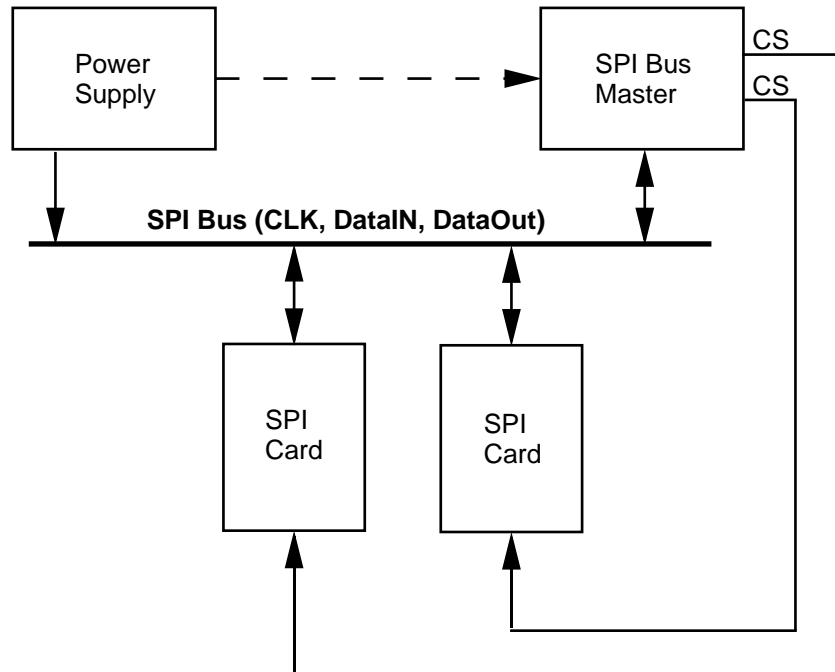

Figure 3-2. MultiMediaCard Bus System
The MultiMediaCard identification and addressing algorithms are replaced by a hardware Chip Select (CS) signal. There are no broadcast commands. A card (slave) is selected for every command, by asserting (active low) the CS signal (see Figure 3-2).